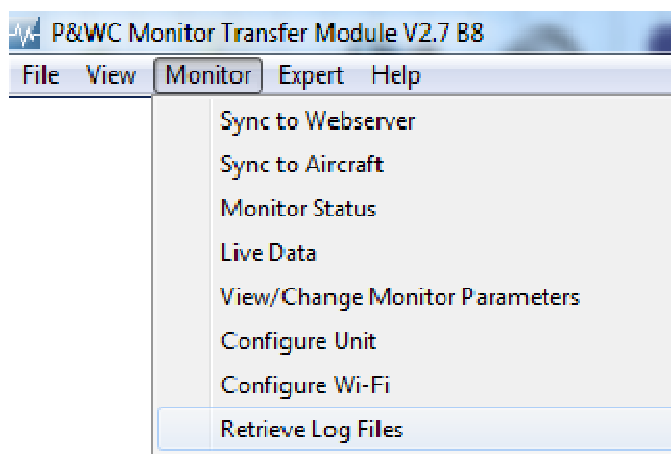

Figure 16: Retrieve Log Files
- 3) Open the Monitor Transfer Module program; select "Retrieve Log Files" from the Monitor menu, as shown in Figure 16 then click the "Retrieve Transmitted" files